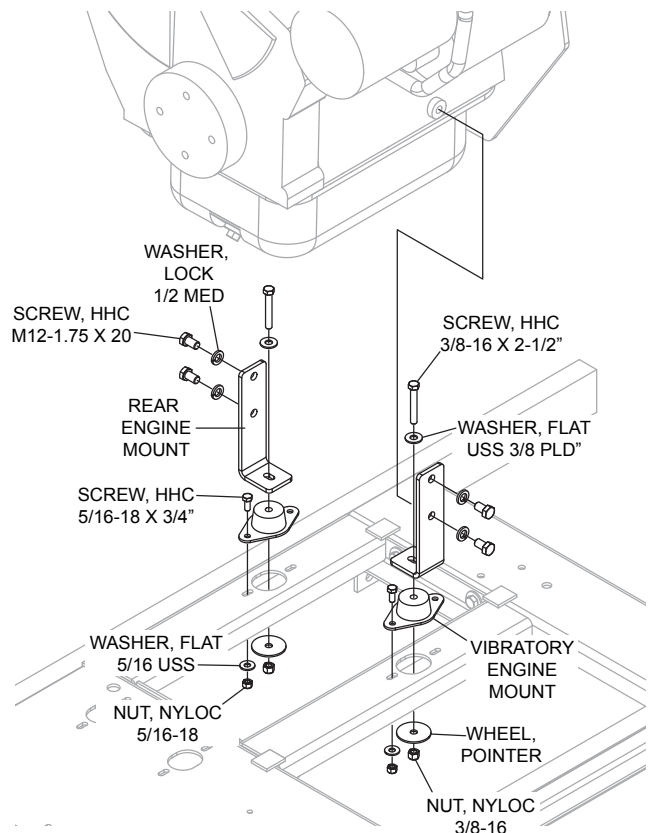

Figure 19. Rear Engine Mounting Hardware
- Install rear engine mounting hardware from kit. See Figure 19.